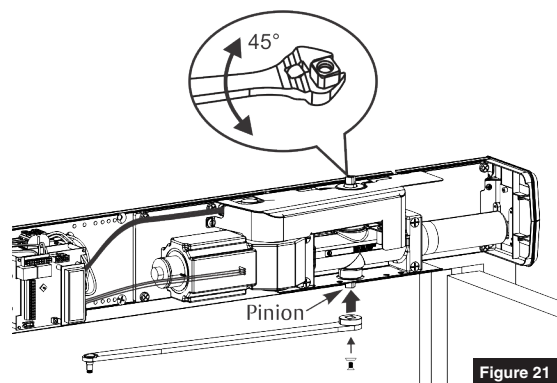

Figure 21
- Using an adjustable wrench, rotate top pinion 45 degrees toward door hinge. You will feel resistance from spring. (Figure 21)
- While holding pinion at 45 degrees, slide arm on bottom pinion parallel to frame as shown. (Figure 21)
- Secure arm to pinion with 1/4-20 x 1/2" screw and countersunk patch washer. (Figure 21)